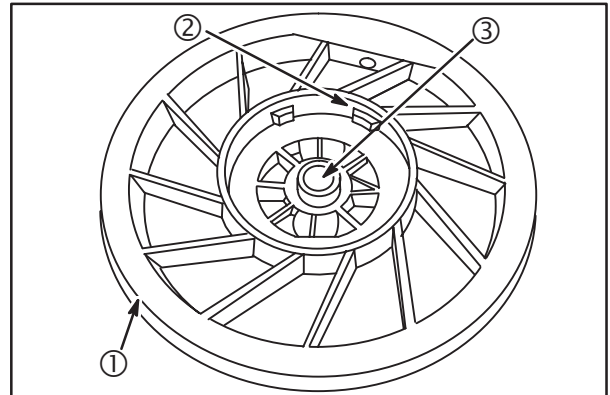

Fig. 67
Inspect pulley for cracks, rough edges (1) or burrs in pulley groove, wear on spring cup lugs (2), and wear on center hole (3), Fig. 67. Replace pulley if damaged or worn.